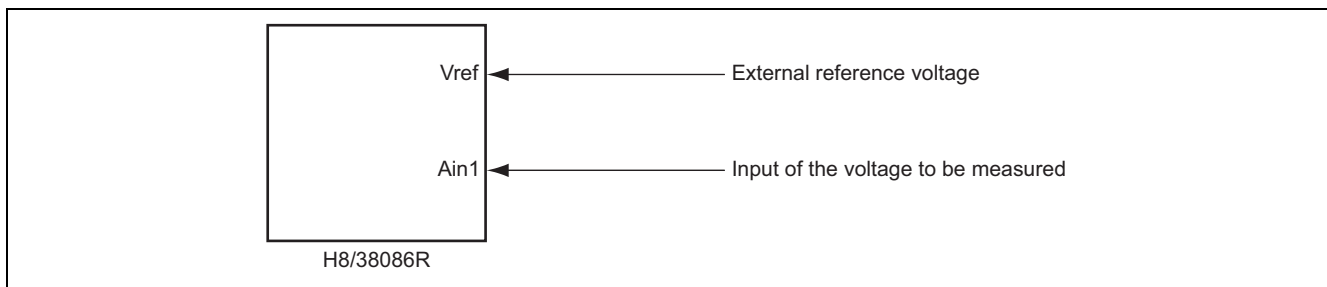

Figure 6.1 Configuration for Voltage Measurement by the $\Delta\Sigma$ A/D Converter (with an External Reference Voltage in Use)
- As is shown in figure 6.1, the internal $\Delta\Sigma$ A/D converter of the H8/38086R is used to measure the voltage input to the Ain pin.